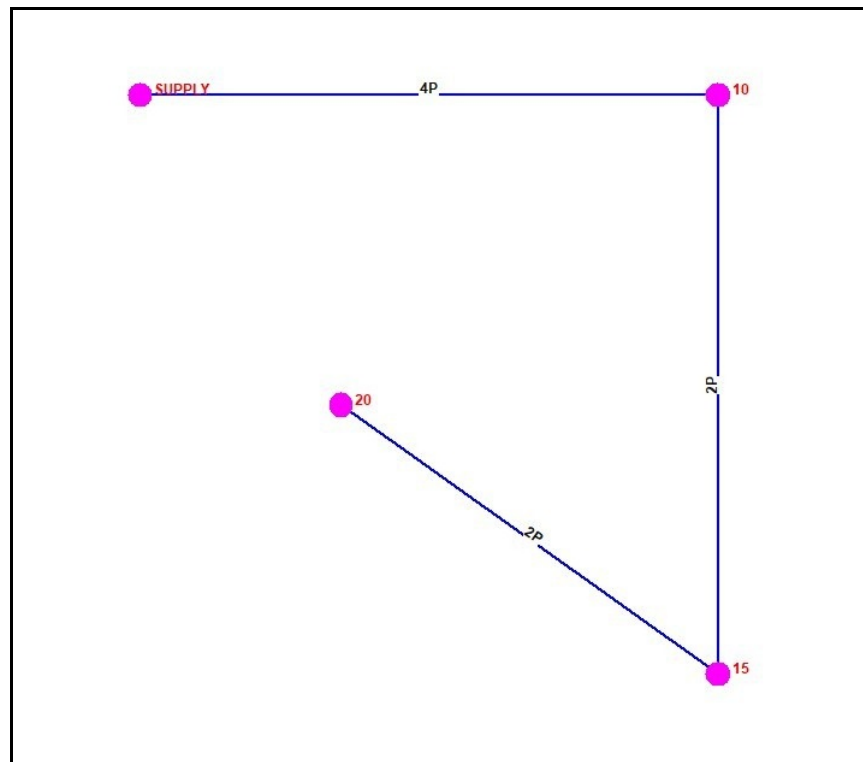

Figure 1
- For the *To Node Location*, move the mouse crosshairs to a location below **Node SUPPLY** and the left of **Node 15** (similar to **Node 20** in Figure 1), and left-click the mouse to indicate the node's location.
After entering this pipe, the model should look similar to Figure 1.